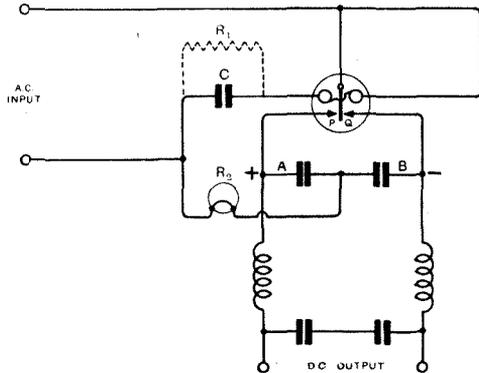
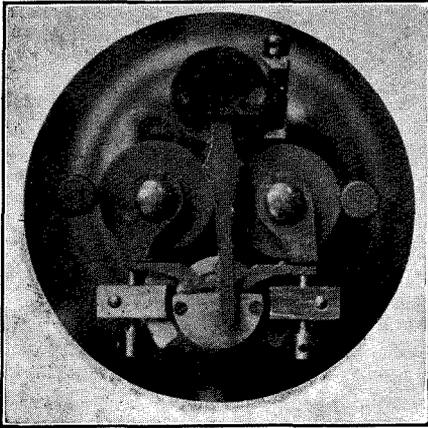
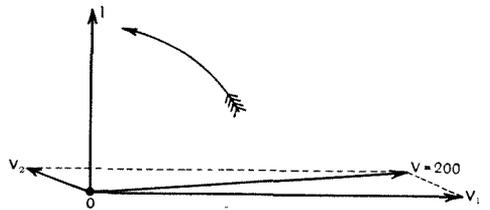

Fig. 3. Connections of full wave vibrator rectifier, employing a polarised relay.
Fig. 4. The movement of a Post Office pattern relay used in the construction of the rectifier.
Fig. 5. Vector diagram showing the voltage displacement.
The diagram of connections is shown in Fig. 3. The chief part of the rectifier, namely, the polarised vibrator and energising coils, consists of an ordinary Post Office recording relay, the one actually used being of the rocking armature type, as shown in Fig. 4, but no doubt any type of high speed recording relay would work equally well provided the insulation is sufficiently good to stand the high voltages. The coils, which each had a resistance of 500 ohms, were connected in series and supplied with A.C., which caused the armature to vibrate against the contacts at the same frequency as that of the supply.
If one complete cycle or wave represents 360 electrical degrees, then, in any coil possessing resistance  $R$  and inductance  $L$ , the current wave will lag behind the impressed E.M.F. wave by an angle  $\phi$  electrical degrees, where  $\tan \phi = 2\pi f L/R$ ,  $f$  being the frequency. Thus if the relay coils were connected directly to the supply the contacts would be made, not near the peaks of the E.M.F. waves as required, but a considerable fraction of a period later, this fraction being  $\phi/360$ , on the assumption of no mechanical lag. Taking into account the mechanical lag, the instant of make would be still later. Thus a compensating device to correct the phase of the current must be employed and this usually consists of a condenser  $C$  (Fig. 3) shunted by a resistance  $R_1$  and connected in series with the relay coils. When allowance is made for the mechanical lag, of the armature the current must be made to lead the supply voltage by a considerable angle, and since this varies for different relays, the correct values for  $C$  and  $R_1$  must be found by trial. It must be borne in mind that this is a circuit partly
tuned to the supply frequency and will probably pass too heavy a current if the full mains voltage is applied to its ends. Adding resistance in series to limit the current will necessitate a re-adjustment of the capacity, so that on the whole this system is rather complicated. The writer found that the mechanical lag was so large that the current had to lead the voltage by nearly a quarter of a cycle and this was effected quite easily by connecting a small condenser of about 0.25 mfd. capacity in series with the relay coils instead of the shunted condenser shown in Fig. 3. This small capacity had the additional effect of limiting the current through the relay coils so that the full 200 volts could be applied without overheating or over-magnetising the relay. Fig. 5 shows the vector diagram for this arrangement, where  $V$  = the voltage of supply (200),  $V_1$  = voltage across the condenser,  $V_2$  = voltage across relay and  $I$  = current through relay.
We come now to consider the operation of the device. It will be noticed from Fig. 3 that the vibrating armature is connected directly to one of the supply mains and that the two contact stops, P and Q, are connected across two 3 microfarad condensers A and B in series. The other main is joined through a lamp  $R_2$  to the mid-point between the two condensers. When the relay is excited the armature vibrates against the contacts P and Q at the same frequency as that of the supply. Suppose that each time